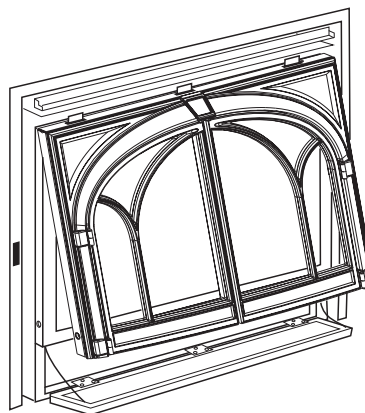

Figure 45. Hang the frame on the cabinet.
The door assembly attaches to the fireplace by engaging the three slots in the upper frame with the corresponding steel tabs at the top of the firebox. See fig. 45.
- Open the Control Access Door. Hang the door frame onto the firebox by engaging the tabs with the holes in the frames. See fig. 45.